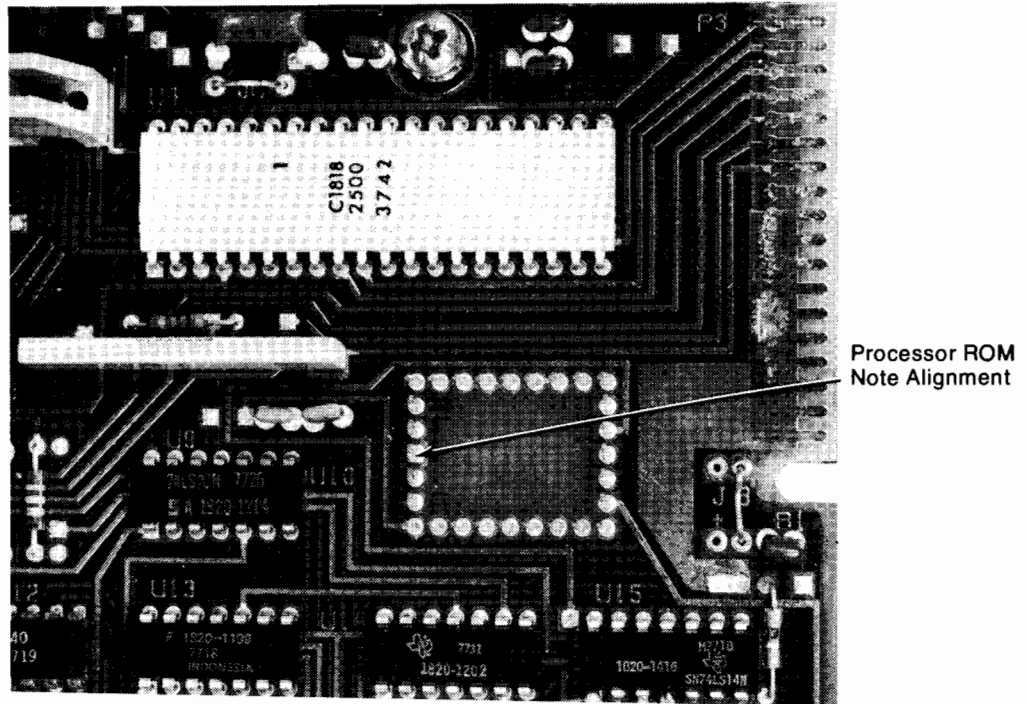

Figure 4-18: Processor ROM Alignment Point
1. Grasp the processor ROM by the edges and carefully pull the ROM straight up from its mounting pins (Figure 4-18).